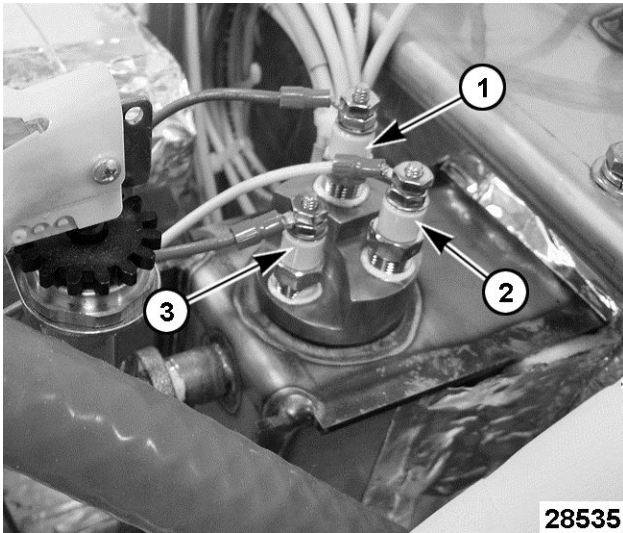

Fig. 58
2. Note location of wires then disconnect from water level probes [1] high level, [2] low level, [3] low level cut off as shown in Fig. 58.